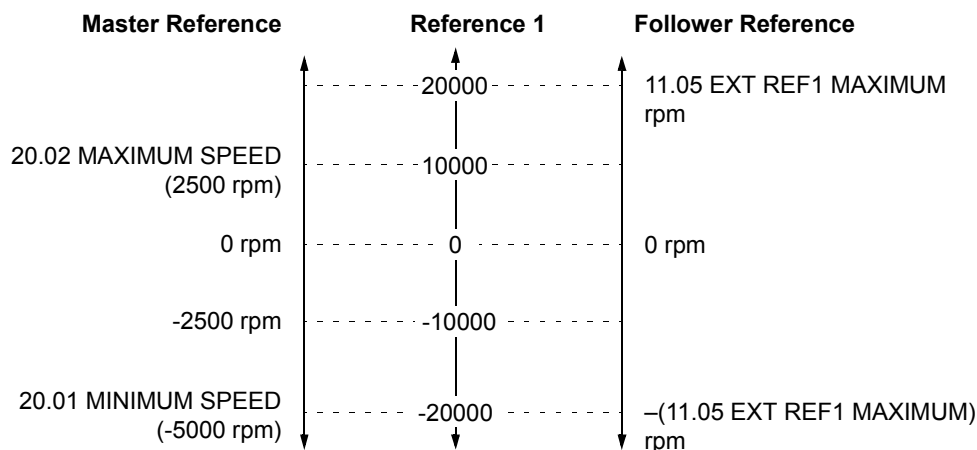

Figure 4. Relation between the speed references of the Master and the Follower.
*Reference 1* is a 16-bit word containing a sign bit and a 15-bit integer. It is formed from the speed reference of the Master using the values of Parameters 20.01 MINIMUM SPEED or 20.02 MAXIMUM SPEED: whichever has the greater absolute value determines both the positive and negative limits that correspond to Reference levels +20000 and -20000. See the examples in Figure 4. below.